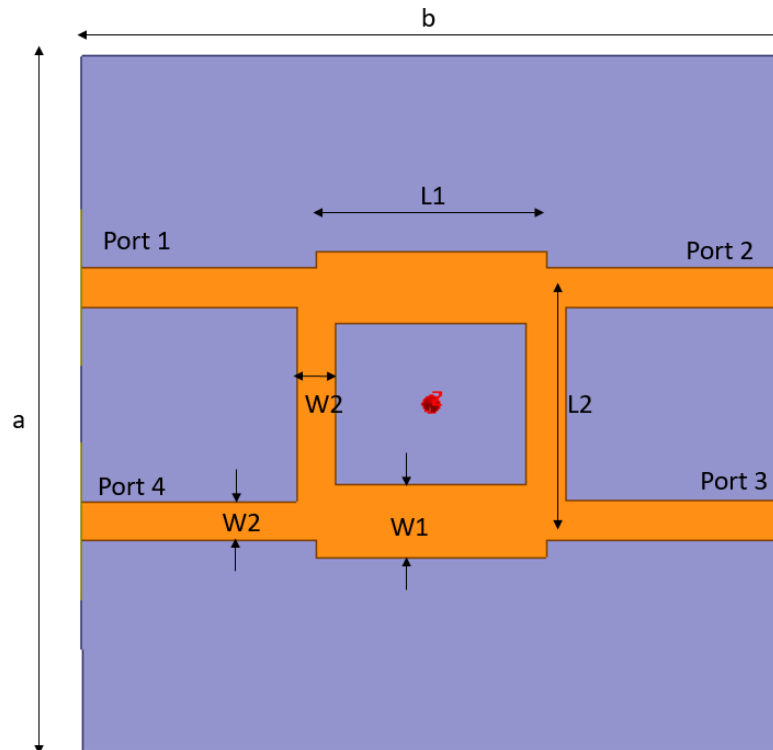

Fig.1. Layout of Branch Line Coupler (BLC)
Fig.1 shows the top view of the designed branch line coupler. The wave ports are not visible as they are in orthogonal plane. Radiation box's visibility is turned off.
- The quadrature hybrid or BLC should have a 90° phase shift between ports 2 and 3 when fed at port 1. With all the ports matched in Fig.1, the power entering port 1 is evenly divided between ports 2 and 3, with a 90° phase shift between these outputs.